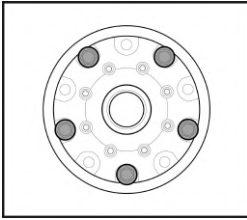

Fig. 18
- Preinstall **five** bolts and tighten them only until the ring gear seats firmly against the Electric Locker case, without threadlocker and without applying final torque. Mark each preinstalled bolt using a paint marker. These bolts will need to be removed in the next step. (**Fig. 18**)